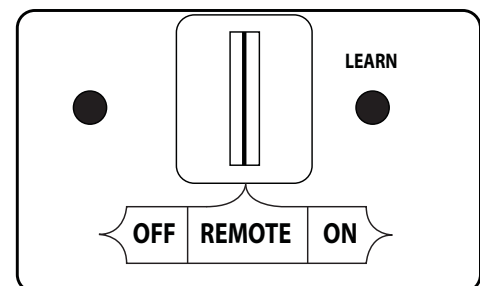

Fig. 37-2 Remote receiver detail (REMOTE)
1. Ensure the pilot is burning. Then locate the 3-position switch on the remote receiver (see Fig. 37-2), and slide the switch to the **REMOTE** position.